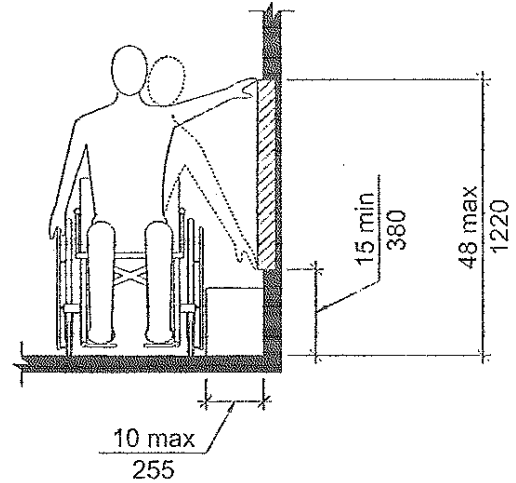

Figure 4
- Unobstructed side reach. Where a clear floor or ground space allows a parallel approach to an object and the side reach is unobstructed, and the edge of the clear floor space is 10 inches (255 mm) maximum from the object, mounting height shall be a minimum of 15 inches (380 mm), and a maximum of 48 inches (1.22 m), above the floor or ground to the operable controls. See Figure 4 for illustration.